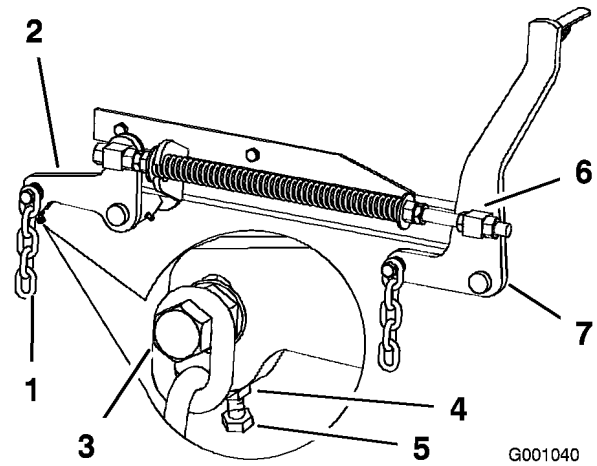

Figure 77
7. If the measurements at positions **B** or **C** are not correct, loosen the bolt attaching the rear chain to the rear support arm (Figure 77).
8. Loosen the jam nut under the rear support arm and adjust the adjustment bolt to get a measurement of 3-1/8 to 3-1/4 inches (Figure 77).
7. Loosen the front swivel jam nuts, at the front of the right and left swivels, approximately a 1/2 inch (13 mm) (Figure 77).
8. Adjust the lift nuts on both the left and the right side of the machine to achieve 1/4 to 3/8 inch (6 to 10 mm) lower in front at **A** than in the rear at **B** (Figure 77).